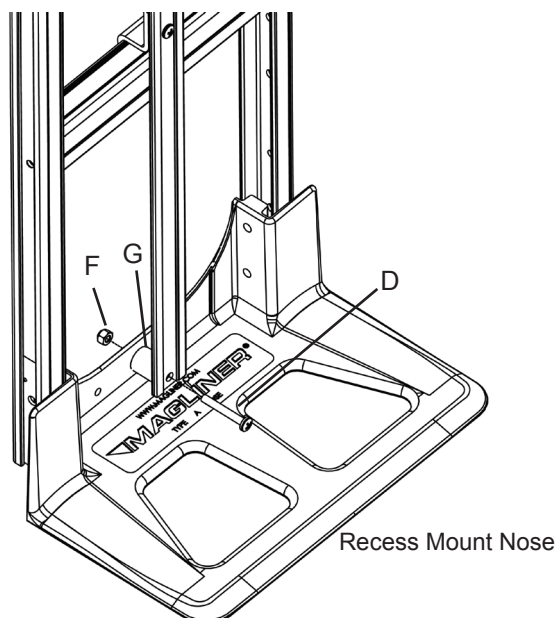

Figure 4a
3. For recess mount noses (see Figure 4a).
- a. Place the spacer (G) in between the vertical strap and the heel of the nose.
- b. Insert the 1/4"-20 x 1-3/4" long screw (D) through the hole in the nose, through the spacer and through the strap. Fasten with one hex lock nut (F).